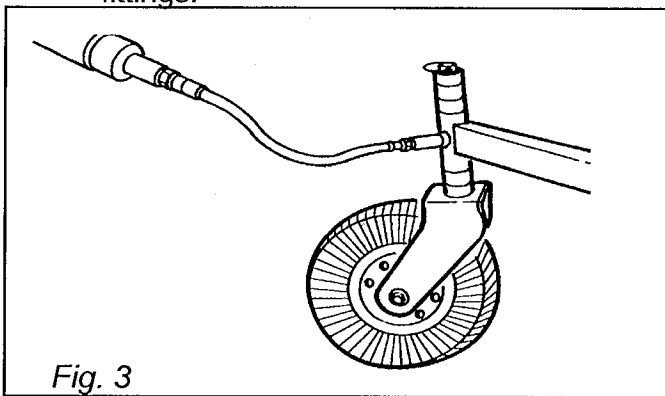

Fig. 3
1. **Lubricate driveline, lubricate caster wheel and tail wheel arm (see fig. 3 & 4):** apply two or three shots of grease to the driveline cross and bearings and the telescoping shafts; apply the same amount to the wheel arm grease fittings and the wheel grease fittings.